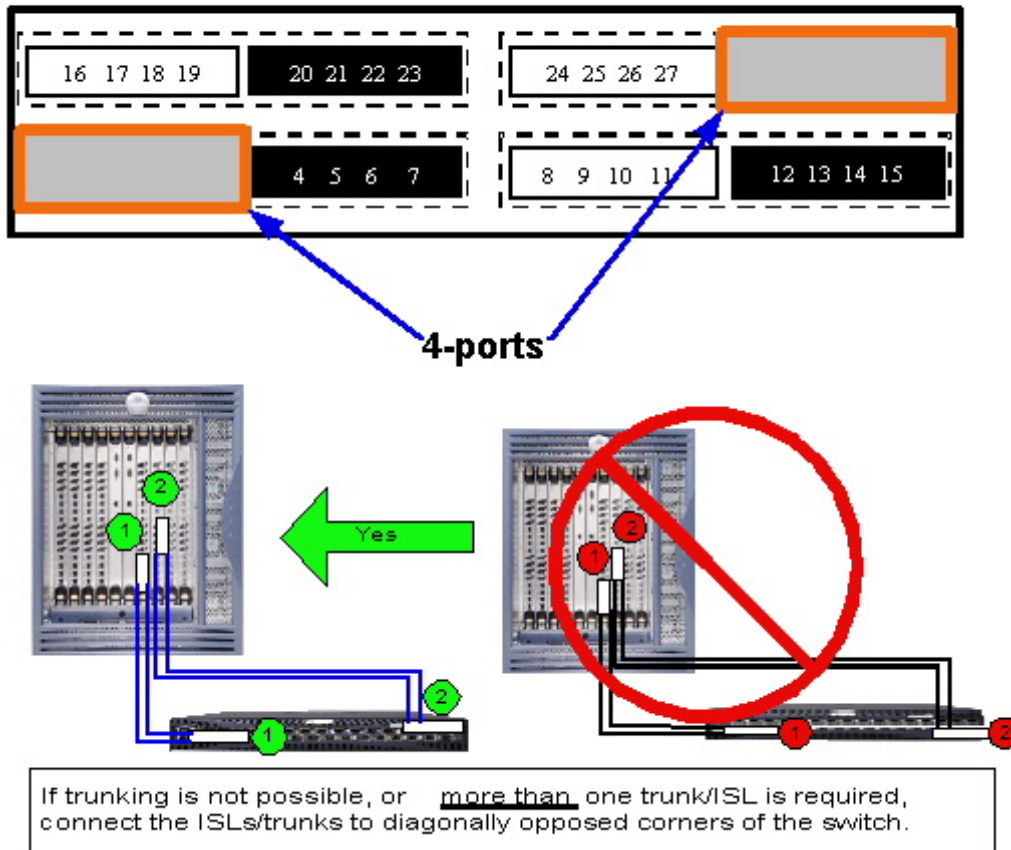
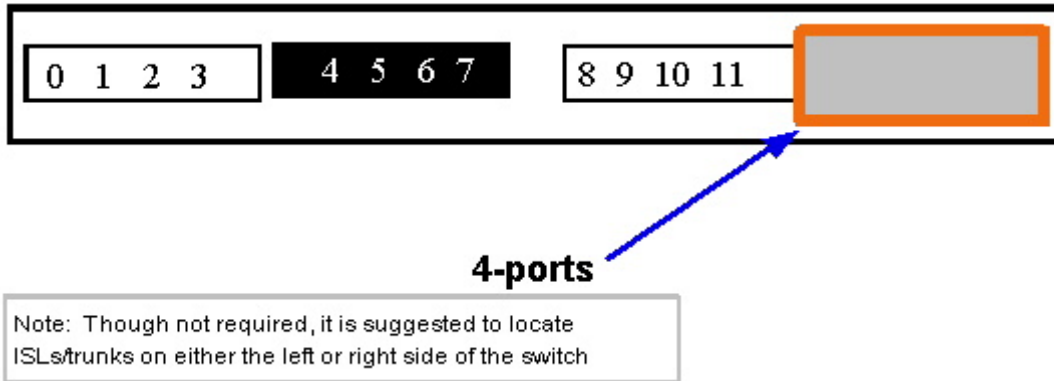
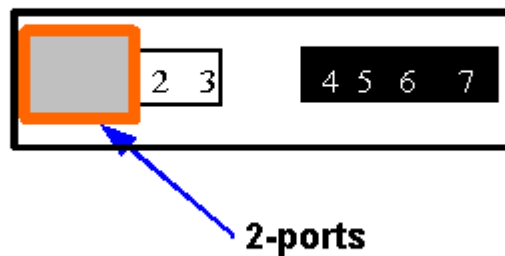

Figure 2-14 Recommended ISL/trunk connection scheme for SilkWorm 3900 switches used as edges in a Core/Edge fabric
Figure 2-15 Recommended ISL/trunk connection scheme for SilkWorm 16-port switches used as edges in a Core/Edge fabric
Figure 2-16 Recommended ISL/trunk connection scheme for SilkWorm 8-port switches used as edges in a Core/Edge fabric
- b) For SilkWorm 3900 switches connect the ISLs/trunks on corners of the switch that are diagonally opposed (see Figure 2-14)
- c) For 8 and 16-port SilkWorm switches (SilkWorm 2000 series, 3200, 3800), connect the trunks/ISLs to the either the left or right hand side of the switch (for consistency) see Figure 2-15 and Figure 2-16.
The recommended ISL/trunk connection guidelines for edge switches that are part of a Core/Edge topology are shown in Figure 2-12, Figure 2-13, Figure 2-14, Figure 2-15, and Figure 2-16. Keeping in line with the recommended ISL oversubscription ratios discussed in *ISL Oversubscription Ratios and Locality* on page 2-5, the connection areas for ISLs/trunks are grouped into blocks of sixteen ports for the SilkWorm 12000, eight ports for the SilkWorm 3900, four ports for